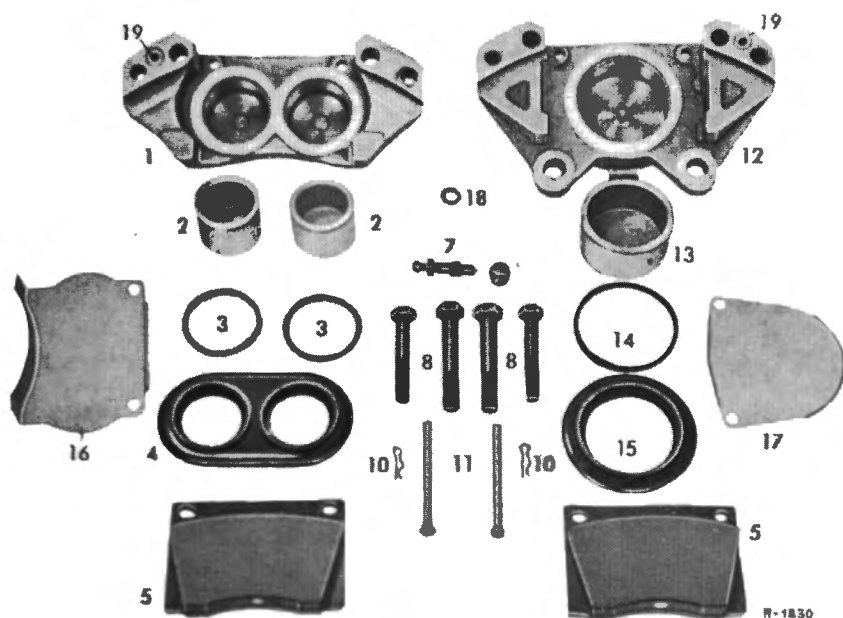

Fig. 42-12/2
3. On the 1st and 2nd versions disconnect the connecting line. Insert a piece of wood (3) approx. 20 mm thick in the caliper gap (1) and force the piston (5) out of the caliper with compressed air (approx. 0.5 atm.). Then remove the piece of wood and the piston (Fig. 42-12/3).